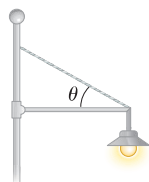

Figure P12.18
18. A 20.0-kg floodlight in a park is supported at the end of a horizontal beam of negligible mass that is hinged to a pole as shown in Figure P12.18. A cable at an angle of $\theta = 30.0^\circ$ with the beam helps support the light. (a) Draw a force diagram for the beam. By computing torques about an axis at the hinge at the left-hand end of the beam, find (b) the tension in the cable, (c) the horizontal component of the force exerted by the pole on the beam, and (d) the